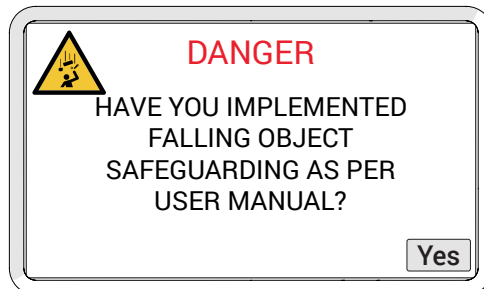

Fig. 198 - Falling object warning
6. A second warning message (Fig. 198) will display requesting assurance that a No Entry Fall Zone has been established (see “Preparation for Safe Use” on page 32) and tether requirements are met (see “Tether Requirements and Attachment” on page 33). Acknowledge this warning by touching **Yes**.